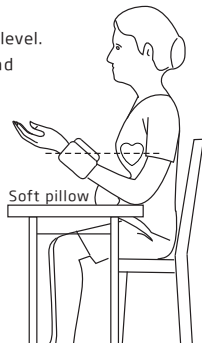

Figure 1
3. Sit upright with your back straight and keep relax. (as Figure 1)